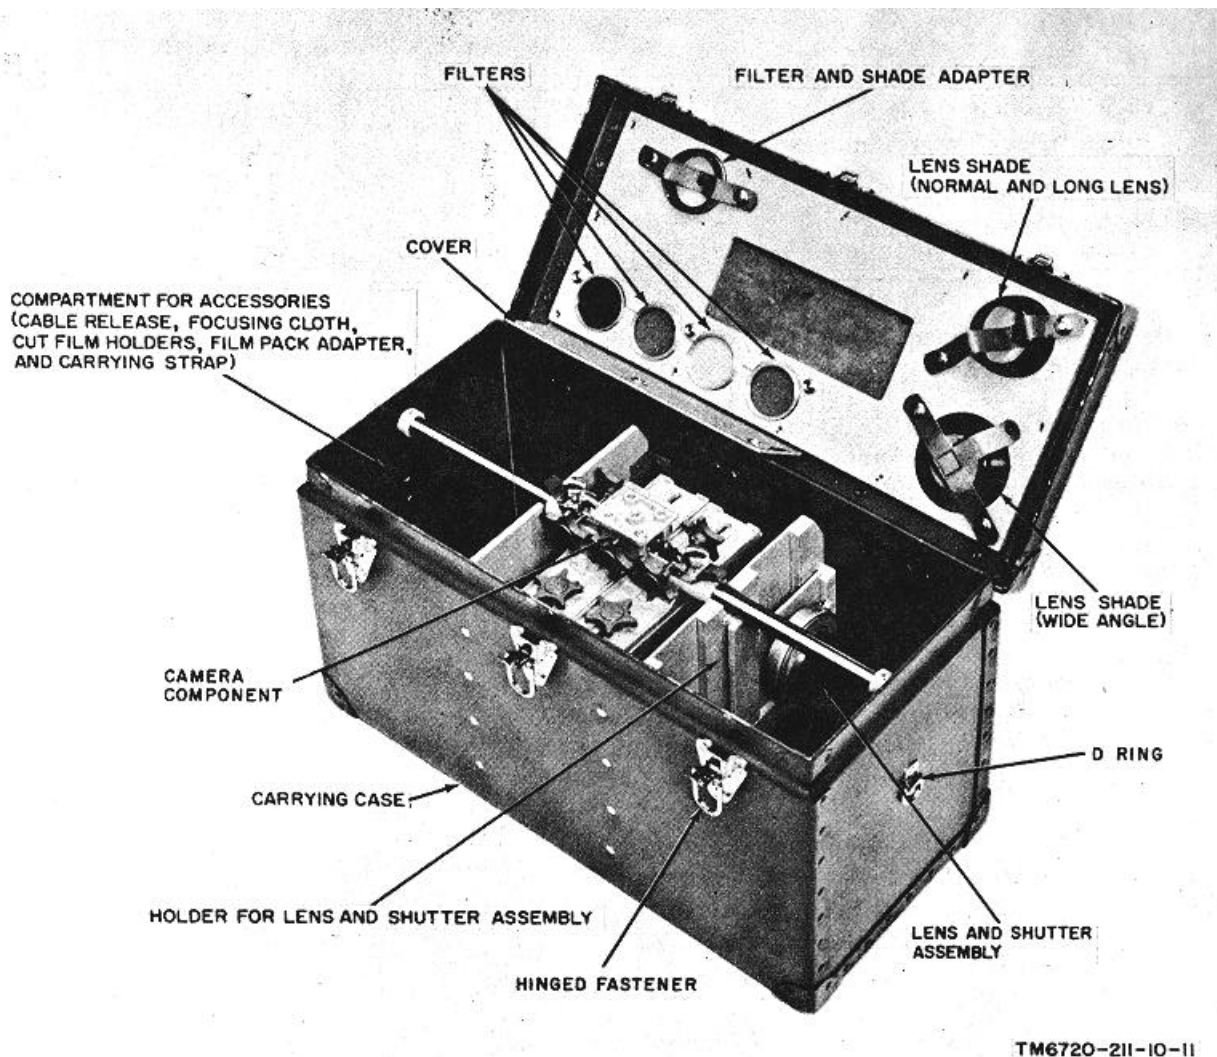

Figure 2. Carrying case, interior view.
b. The camera component and the minor components are stored in the carrying case (fig. 2). The tripod (with the attached panhead) (fig. 1) is stored in the tripod case.
f. *Carrying Case, Carrying Strap, Focusing Cloth, and Tripod Case.* The carrying case (fig. 2) has compartments to accept all the camera set components except the tripod (and attached panhead), which is stored in its own tripod case. The camera component is supported in the center compartment of the carrying case. The minor components are stored in the end compartments with the exception of the filters, filter and shade adapter, and lens shades. These items are stored in the specially fitted cover of the carrying case.
- (1) Open the outer cartons and slit the heat-sealed vaporproof barriers.
- (2) Remove the inner cartons.
- (3) Carefully cut open the inner cartons and take out the carrying case and tripod case that contain the tripod.
- (4) Open the carrying case and remove any packing material used to prevent damage to the minor components during shipment.
- (5) In original shipment, various minor components are shipped in the original cartons. Remove the items from the original cartons and place them in the carrying case as shown in figure 2.
- (6) Open the tripod case and remove the tripod.